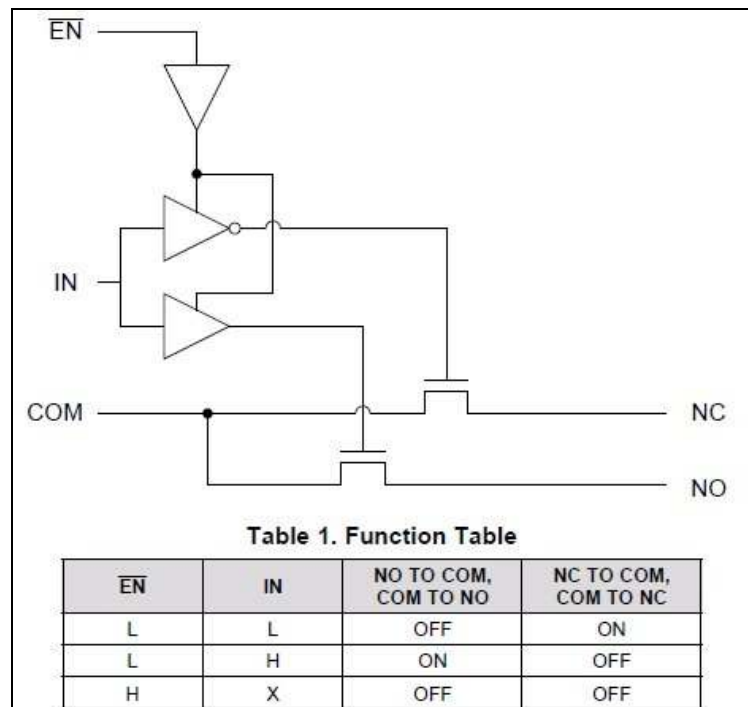

Figure 1: TS3A5018 block diagram and function table
- Following figure1 shows block diagram of TS3A5018 and function.